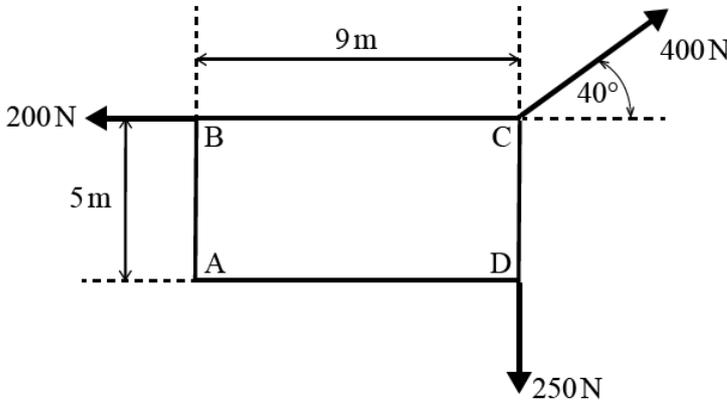

Fig. 1
- 1 (a) A rigid rectangular plate with corners A, B, C and D is subjected to three coplanar forces at corners B, C and D as shown in Fig. 1.